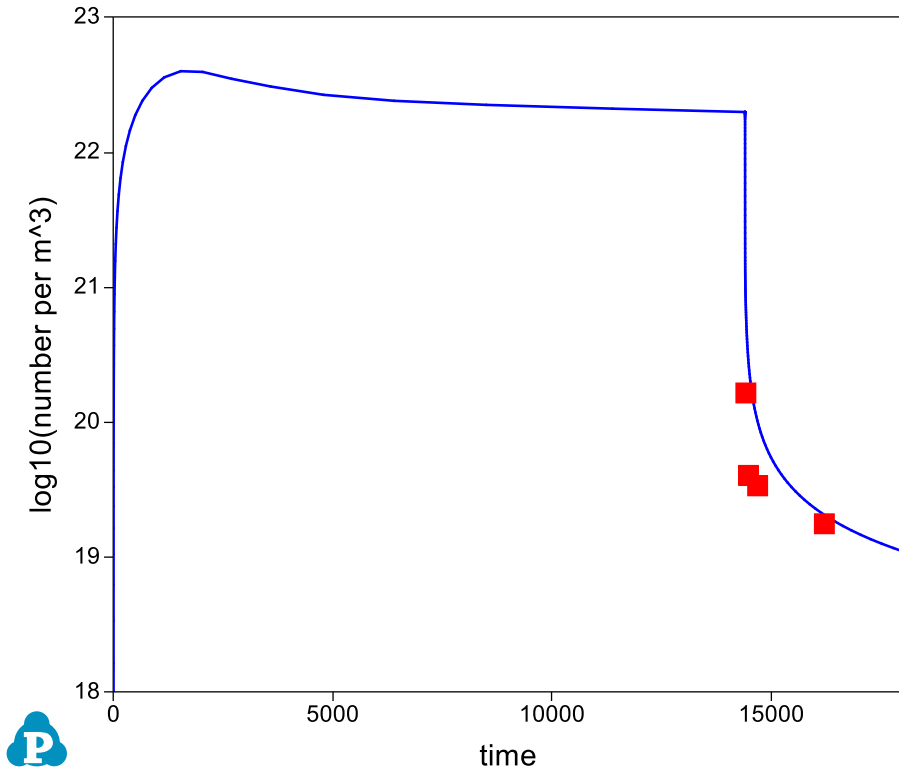

Figure 3.5.3: Calculated evolution of particle number density with experimental data
- Figure 3.5.3 shows the calculated evolution of particle number density with experimental data, time is in second. It is seen that the particle number density increases quickly within the first hour and then decreases slightly during ageing at 185°C. It decreases drastically when heating up to 350°C;